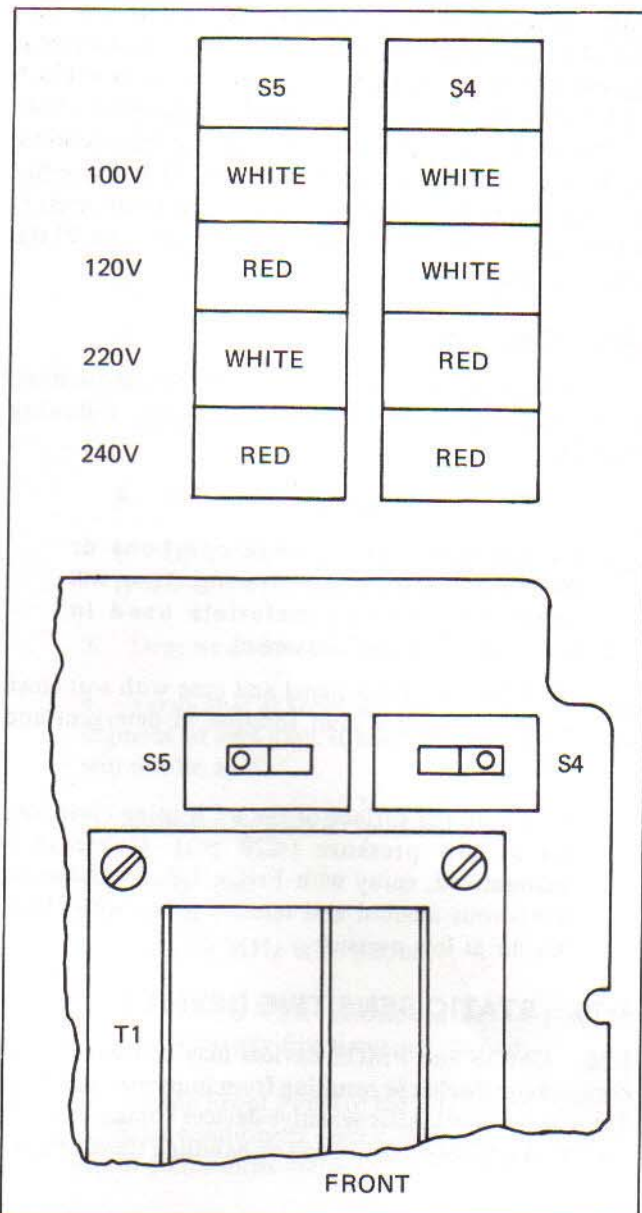

Figure 4-2. Line Voltage Selection
4-13. Input line power voltage is selected by positioning the two switches in the right rear corner of the Main PCB. Each switch (S4 and S5) shows a position identifying red or white dot. Line voltage settings identified by dot color are presented in Figure 4-2. Factory line voltage settings are identified on the instrument's rear panel; one of four (4) white dots will be darkened to signify 100, 120, 220 or 240V selection.